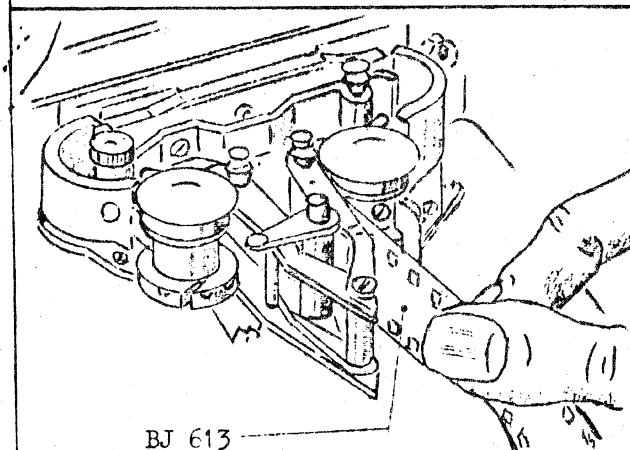

Fig. 2
1.3 Automatic loading (fig. 2)
Preparation as per fig. 2, camera mounted.